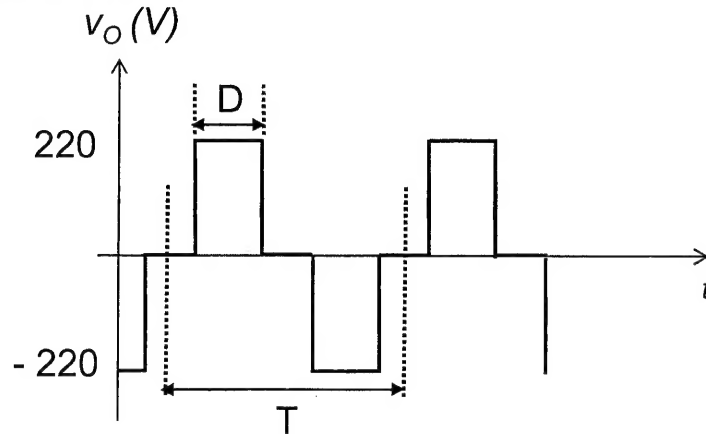

Figure Q4(a)
- a) A pulse width modulated full bridge inverter produces output AC voltage as shown in Figure Q4(a). The inverter is operating at a duty cycle of 55 % with a frequency of 50 Hz. The resistive load is $12\ \Omega$.